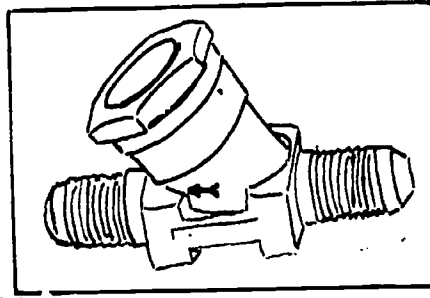

Fig 2-22. Typical refrigerant line-check valve.
- (3) **Relief valve.** This type of valve is usually installed on receivers or water-cooled condensers as a safety device. It is set at a predetermined pressure and will open to relieve high pressure from the system and thus prevent damage.
- (4) **Line-check valve (fig 2-22).** A line-check valve is installed in an air-conditioning system in order to maintain liquid refrigerant flow in one direction only. Any flow in the opposite direction promptly closes this valve. Line checks use either a flapper or ball as flow checks. In the type employing a flapper, the liquid flows much like a person passing through a swinging door. Any attempt of the liquid to reverse its flow will push the flapper back against the seat, stopping the flow. The ball-type valves works much the same way. The liquid flowing in the proper direction will push the ball out of the way. If the liquid attempts to flow in the opposite direction, the ball is pushed back on its seat and the flow is stopped.